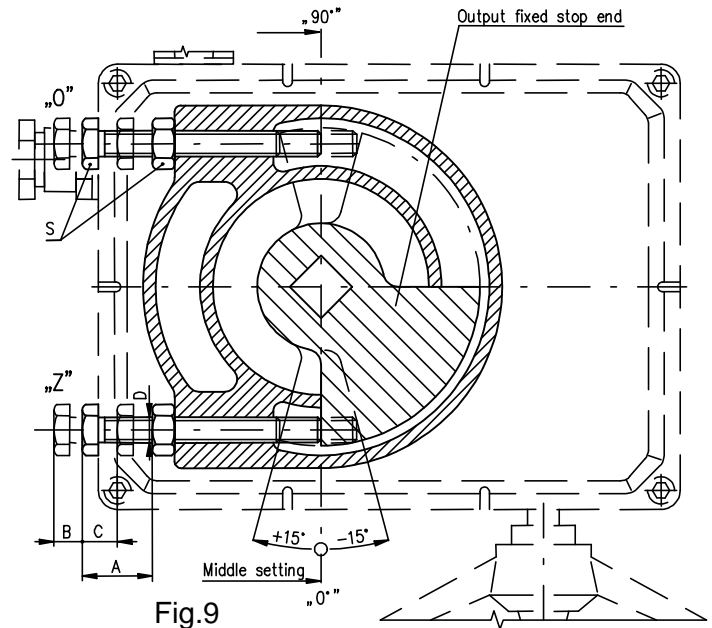

Fig.9
4.6 Resetting of operation angle and setting of stop end screws (Fig.9)
The valve operation angle position is defined with the stop end screws which allow to change the position from the position "Z" (closed - 0°) and from the position "O" (open - 60°, 90°, 120°, 160°) by a value of ±15°. For better understanding see Fig. 9 where the output shaft is in the position "Z" for the operation angle of 90°. The stop end screws serve as mechanical limits of the operation angle position at manual control or as end travel points for torque switching-off, else the mechanical gearing could be damaged.
4.6.2 Setting of stop end screws at torque switching-off (Fig.9)